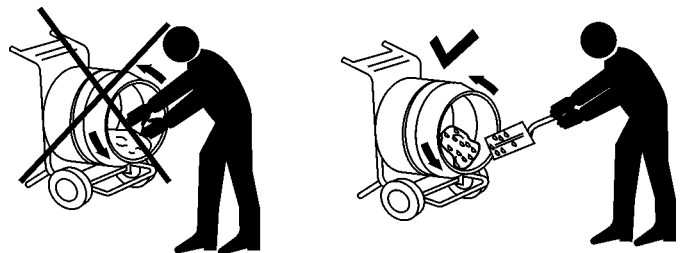

Figure 19. Mixing Drum (Placing cement Mix)
6. The drum should be rotating allowing the mixing process to begin. Use a shovel (Figure 19) to place the cement mix inside the drum, add water as required. Be careful to only place the **tip** of the shovel inside the drum. Placing the shovel all the way inside the drum will cause the shovel to strike the blades. This condition will make the shovel rotate, and could cause injury to personnel.